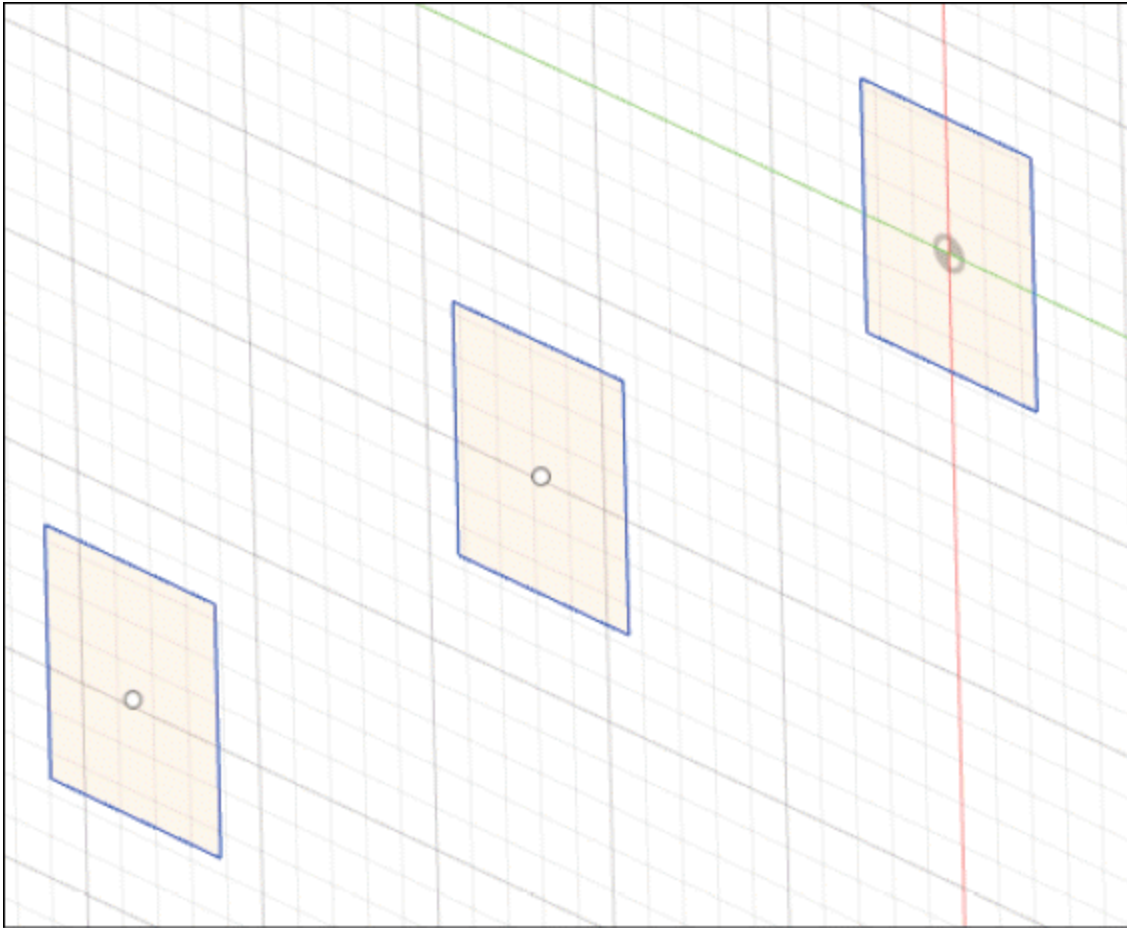

Figure-9. Sketches after copy paste
- Create the same sketch on other offset plane. The sketches will be displayed as shown in Figure-9.